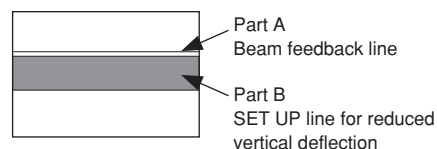

Fig. 4-6-2. SETUP ON State
To stabilize the black level over a long period of time, this monitor adopts the beam feedback clamp method which detects beam currents to perform clamping. Therefore one line (Part A in Fig. 4-6-2) is displayed on the CRT.
If the BACKGROUND is lowered so that Part B in Fig. 4-6-2 becomes invisible, the line at Part A disappears, disabling the detection of the beam current.
- Set only the **R.SCREEN** switch to ON (red screen only), adjust the R.BACKGROUND data so that the red line at Part B in the Fig. 4-6-2 illuminates slightly.
- Set only the **G.SCREEN** switch to ON (green screen only), adjust the G.BACKGROUND data so that the green line at Part B in the Fig. 4-6-2 illuminates slightly.
- Set only the **B.SCREEN** switch to ON (blue screen only), adjust the B.BACKGROUND data so that the blue line at Part B in the **Fig. 4-6-2** illuminates slightly.
- ⑤ **Adjusting the high light portion**
- ⑥ **Adjusting the low light portion**
- ⑦ As the ⑤ and ⑥ adjustments interfere with each other, repeat them until the desired color temperature is acquired from low light to high light.
- Set the **SET UP** switch in the drawer panel to ON, and set as shown in **Fig. 4-6-2**.
④ **Setting CONTRAST**